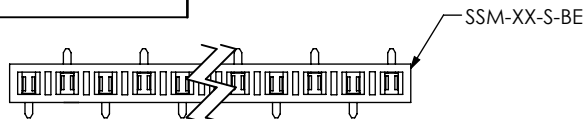

FIG 2
- BE: BOTTOM ENTRY (ONLY AVAILABLE ON -SV) (USE SSM-XX-S-BE) (SEE FIG 2, SHT 2)